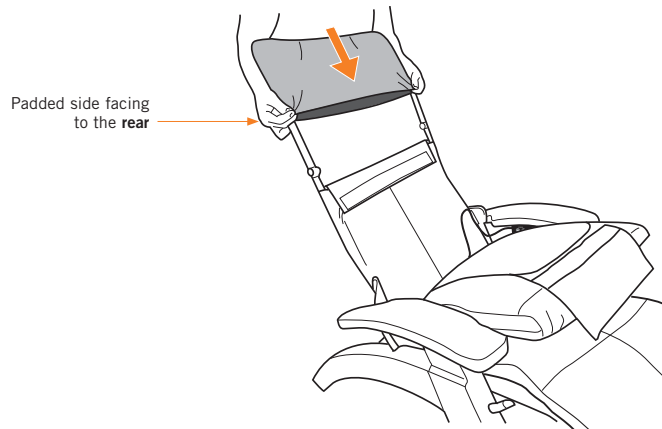

Fig.20
1. Slide the head sock over the headrest frame, with the padded side facing to the rear (Fig.20).